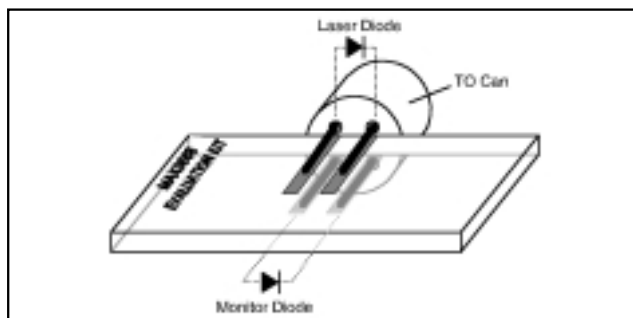

Figure 1. Attachment of Laser Diode/Monitor Diode to MAX3668 EV Kit
- 2) Connect a TO-style header laser and monitor diodes (Figure 1) as follows: